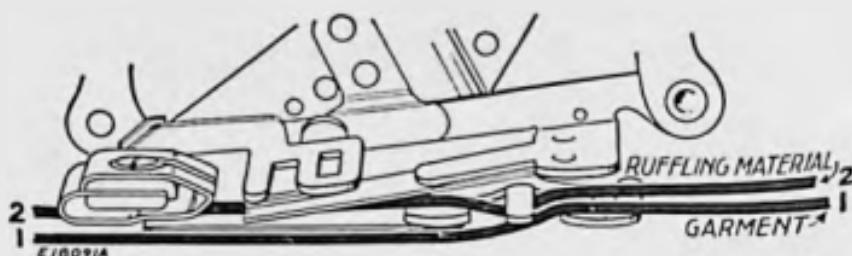

FIG. 63. CORRECT POSITIONS FOR THE MATERIALS
(1) Insert the material to be ruffled between the two blue blades **Line 2, Fig. 63.**
(2) Place the material to which the ruffle is to be attached under the separator blade **Line 1, Fig. 63.**
(3) Proceed the same as for plain gathering.